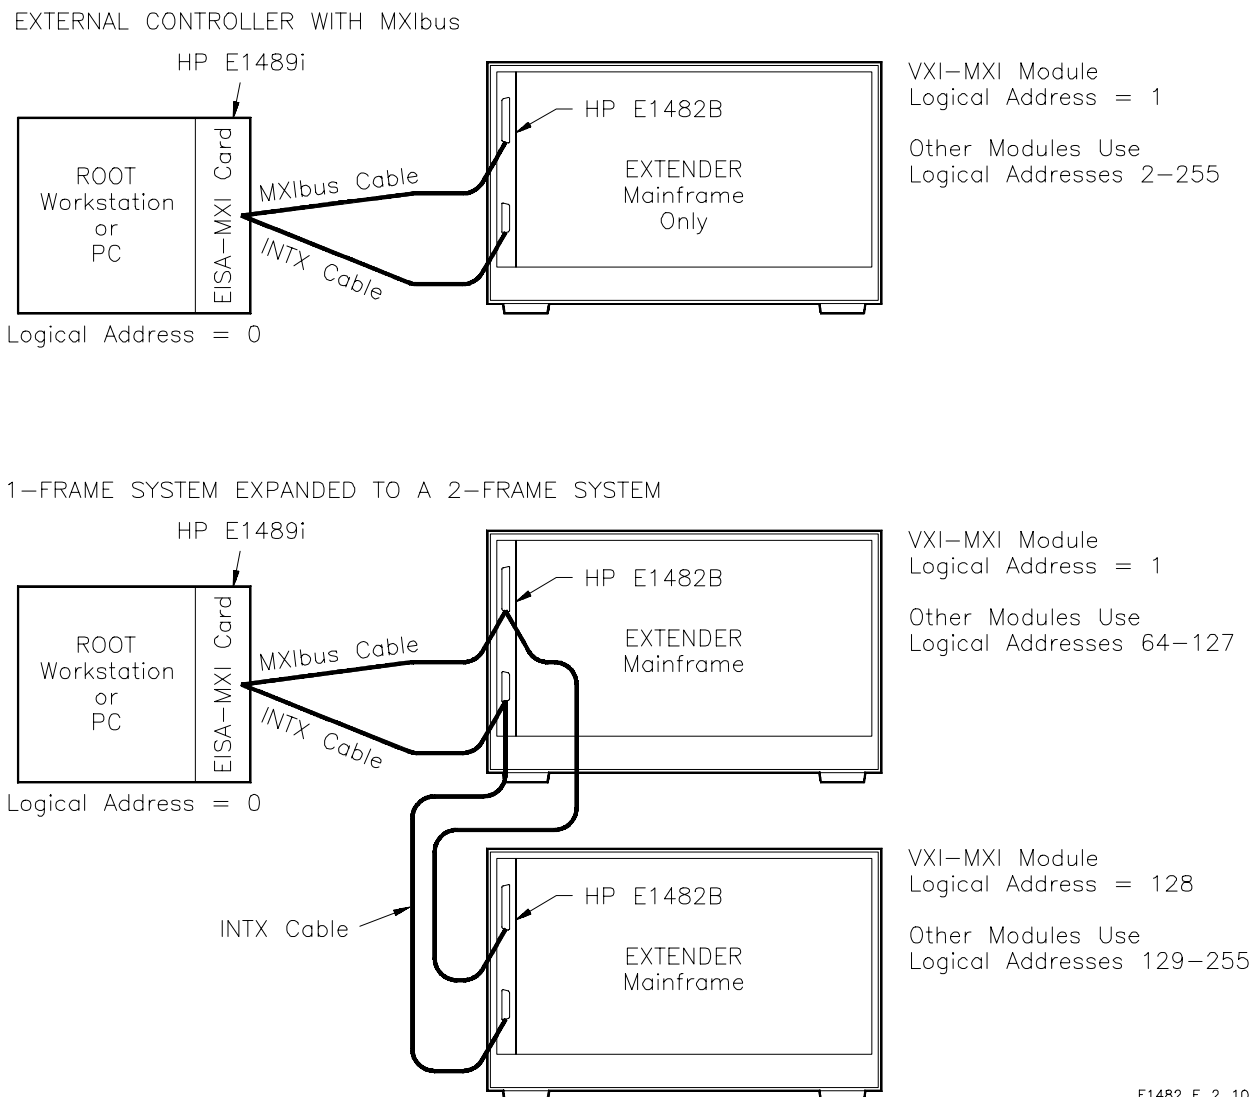

Figure 2-10. External Controller System, 2-Frame.
For systems using an **EXTERNAL** controller (e.g. workstation or PC) in place of a command module, set the VXI-MXI module that interfaces to the workstation/computer to logical address 1 (the workstation/computer must be at logical address 0). This is illustrated in the 1-frame connection to the EISA-MXI card in Figure 2-10.
- A 2-frame system using an external controller is illustrated in the lower part of Figure 2-10. This system splits the addresses into two parts. For the root mainframe, the workstation or PC is at logical address 0, the VXI-MXI module is at logical address 1. All other modules in the root mainframe use logical addresses 64 to 127.
The following shows a 1-frame MXIbus system connected to a Series 700 workstation. This diagram depicts the system shown in the top of figure 2-10.